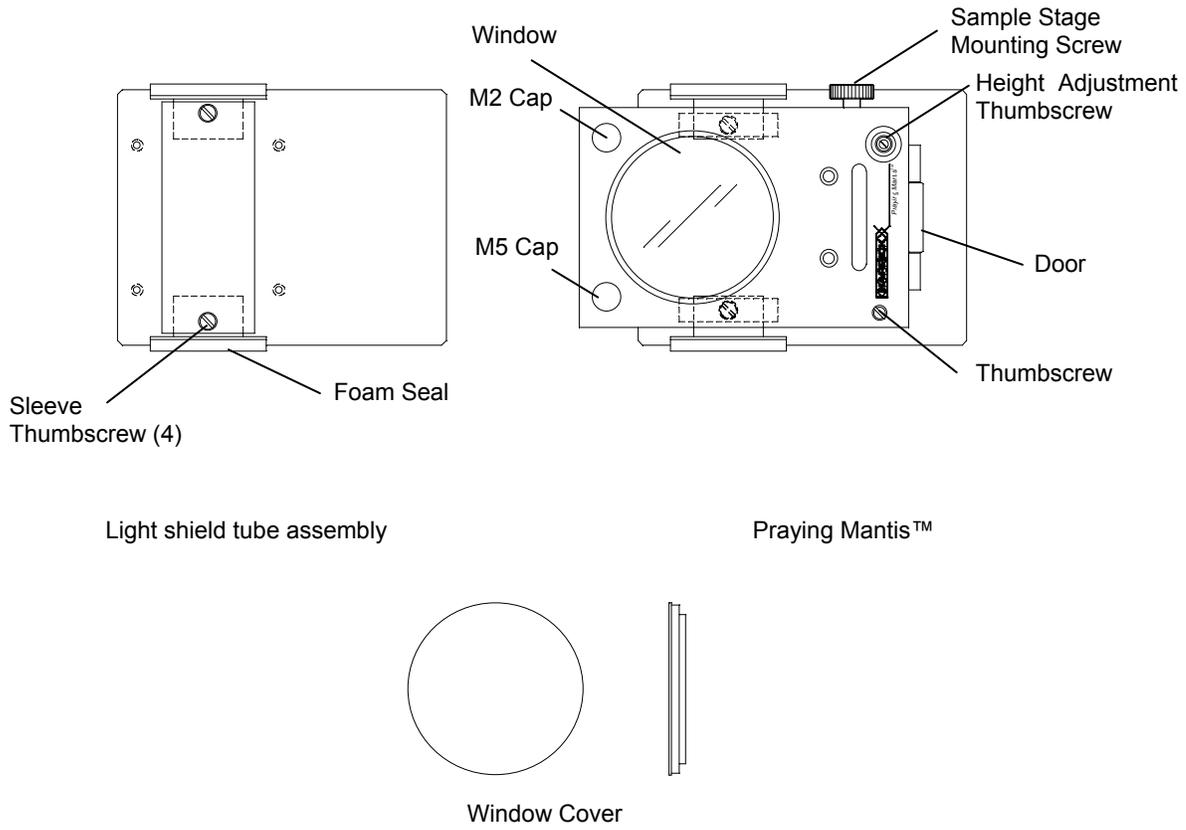

Figure 1 • Praying Mantis™ Components
Before installing the Praying Mantis™, familiarize yourself with the accessory and its various components by referring to the drawing of the Praying Mantis™ found below (Figure 1).
- Open the door on the front of the attachment (Figure 1).